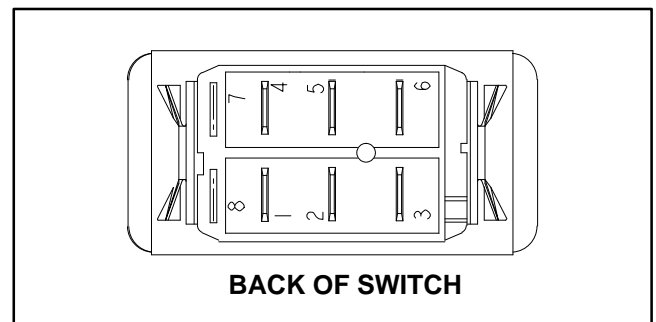

Figure 40
5. The steering selector switch terminals are identified in Figure 40 and the circuitry of the selector switch is shown in Figure 41. With the use of a multimeter (ohms setting), the switch functions may be tested to determine whether continuity exists between the various terminals for each switch position. Verify continuity between switch terminals.